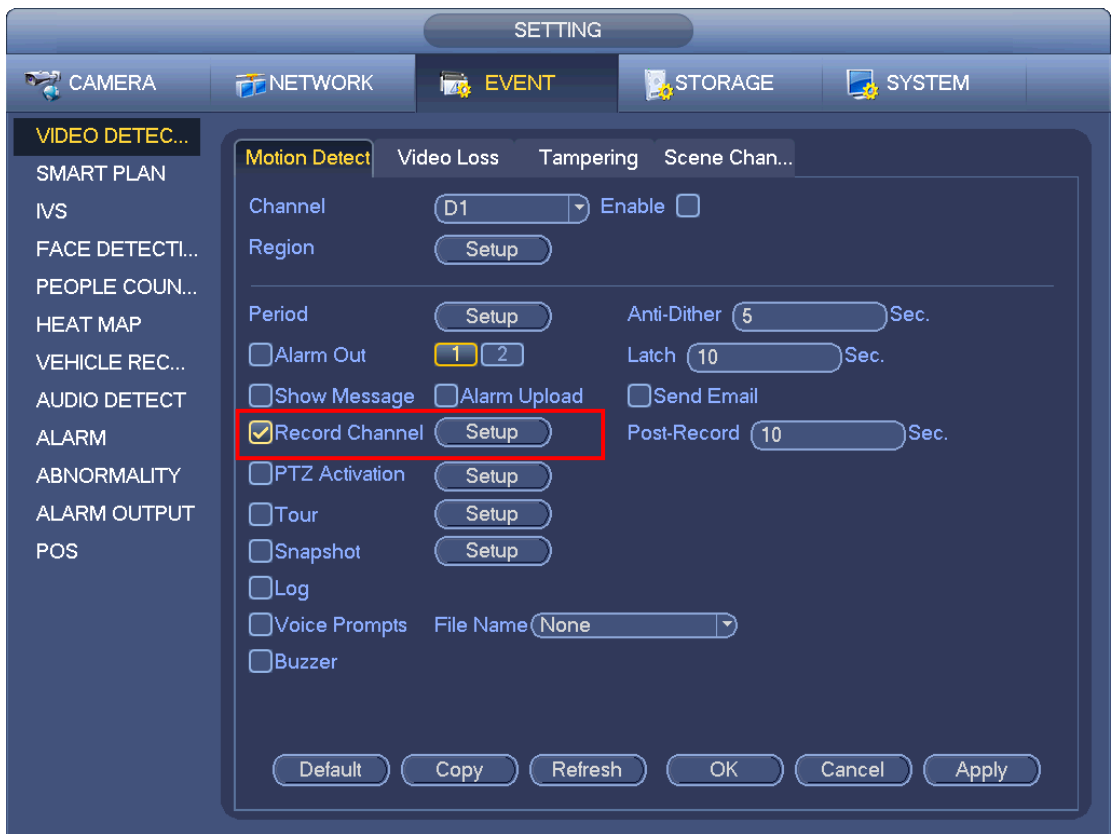

Figure 4-29
- When the record type is MD (motion detect), alarm, MD&Alarm, IVS and POS, please enable the channel record function when corresponding alarm occurs. For example, when the alarm type is MD, from main menu->Setting->Event->Video Detect->Motion Detect, please select the record channel and enable record function. See Figure 4-29.